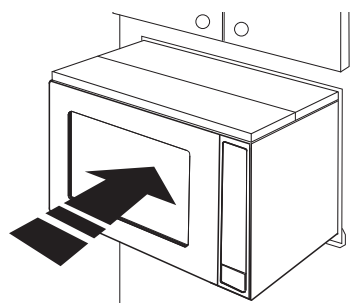

Figure 9
B. **CABINET INSTALLATION:** Place the oven adjacent to the wall or cabinet opening. Plug the power cord into the electrical outlet. Carefully guide the assembled oven into the prepared opening. Slide the oven on the Bottom Duct assembly. See Figure 9.